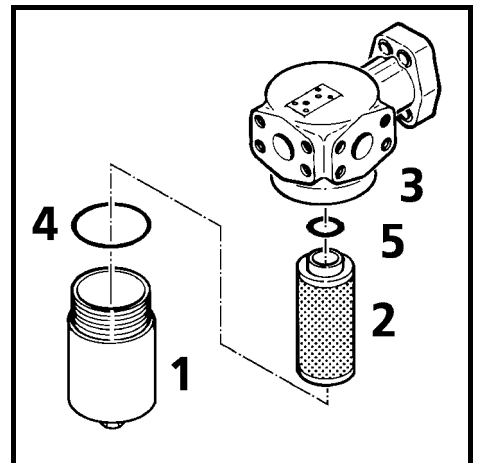

Fig. 20
- Remove the filter housing 1 (Fig. 20),